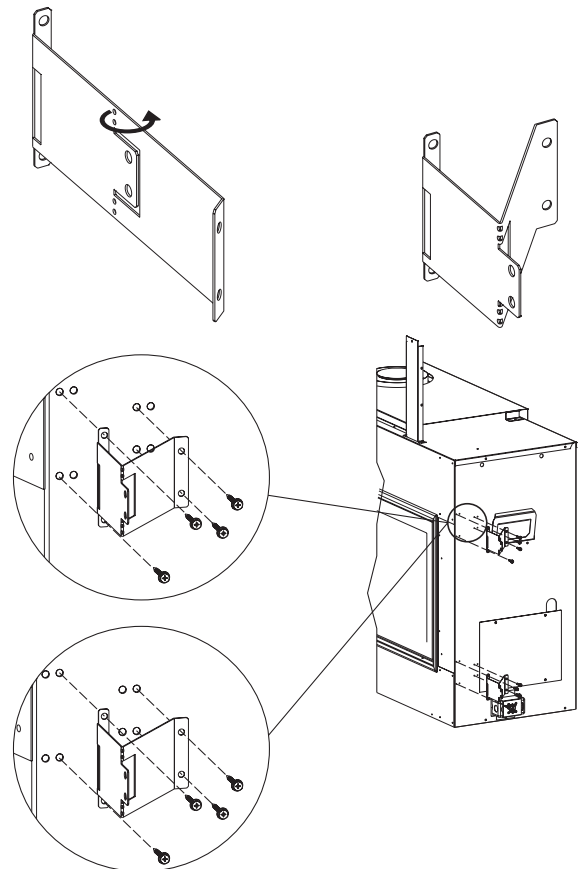

Figure 24
3. Secure the four framing brackets and hand bend them into a V shape as shown in Figure 24. Secure with #10 x 1/2in hex-head screws.
4. Locate the nailing flanges on the sides of the fireplace (two each side). See Figure 24.